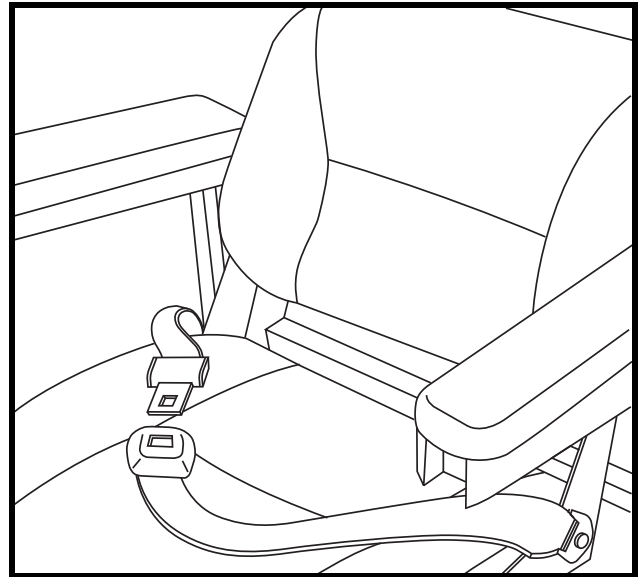

Figure 15. Positioning Belt
1. Insert the metal tab on the right side of the belt into the plastic housing on the opposite strap until you hear a “click.” **See figure 15.**